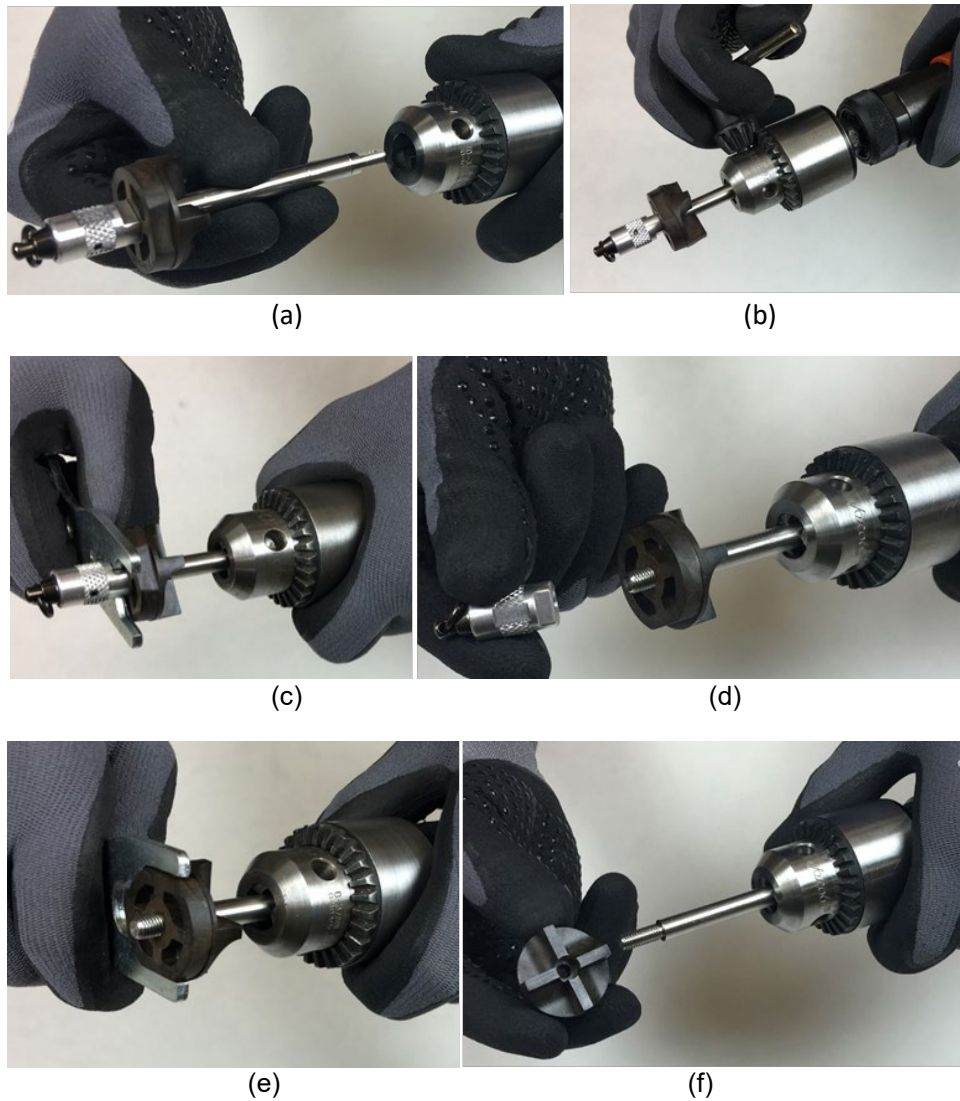

Figure 12. Removing Torlon Adhesive Cutters and Swivels from the Segmented Mandrel Drill Motor
- i. Re-chuck removed mandrel into the drill (Figure 12(a) and (b))
- ii. Using combo flat wrench, place on flat area of swivel (Figure 12(c))
- iii. Turn to loosen (Figure 12(d))
- iv. Using combo flat wrench, place on flat area of Torlon Adhesive Cutter and turn to loosen (Figure 12(e) and (f))